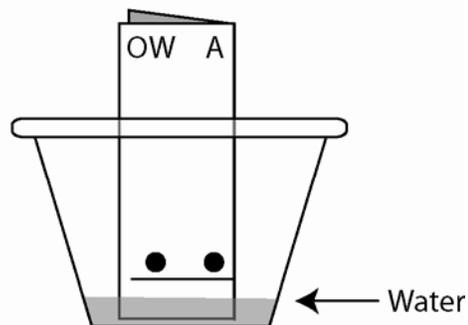

Figure 2
5. Fold and stand the chromatography paper in the cup as shown in Figure 2. Do not move the chromatography paper once you have set it in the cup.